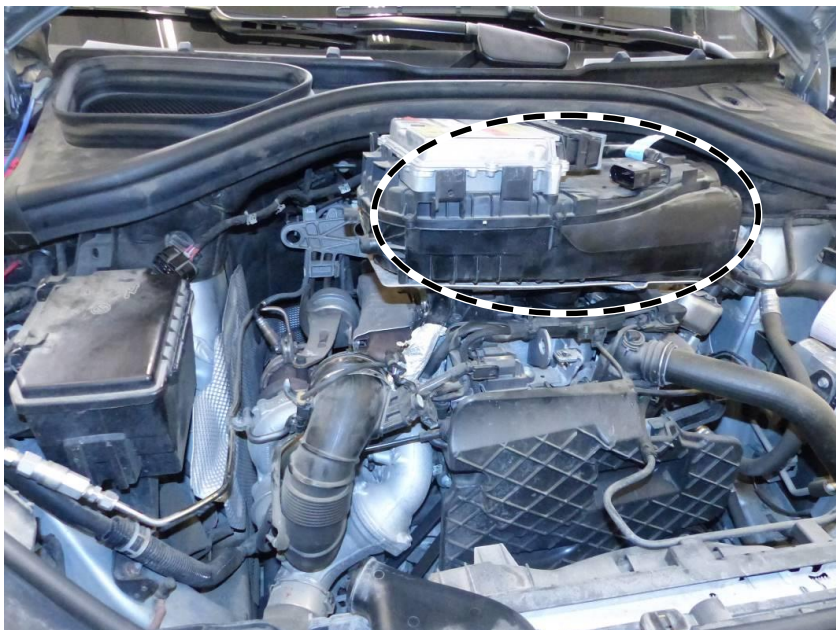

Figure 2
3. Release air filter housing together with control unit and place on the engine with connected lines (Figure 2).